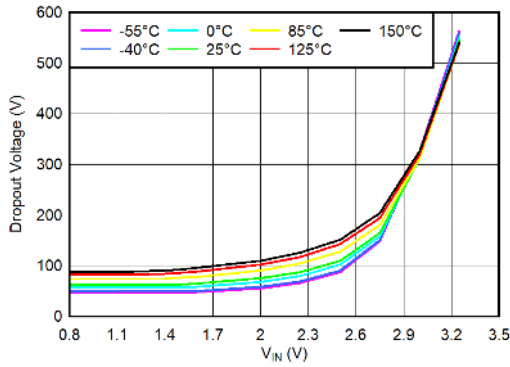

Figure 6-29.  $V_{IN}$  Dropout Voltage vs  $V_{IN}$  and Temperature ( $T_J$ ) for  $I_{OUT} = 1.5 \text{ A}$
- (1) Adjustable devices tested at 0.8 V; resistor tolerance is not taken into account.
- (2) Dropout is defined as the voltage from  $V_{IN}$  to  $V_{OUT}$  when  $V_{OUT}$  is 3% below nominal.
- (3) 3.25 V is a test condition of this device and can be adjusted by referring to Figure 6.29.